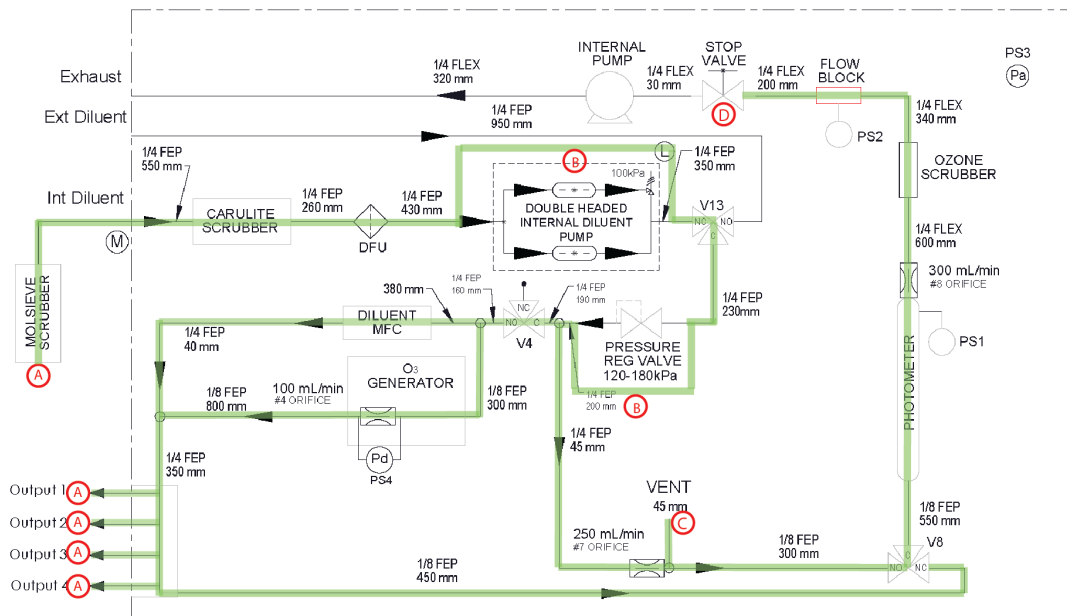

Figure 78 – Leak Check: 1B (Photometer + Gas Delivery + Int. Diluent + Ref. Air)
3. Wait 3 min with the internal pump running then turn the stop valve (90 degrees) marked as “D” on Figure 78.